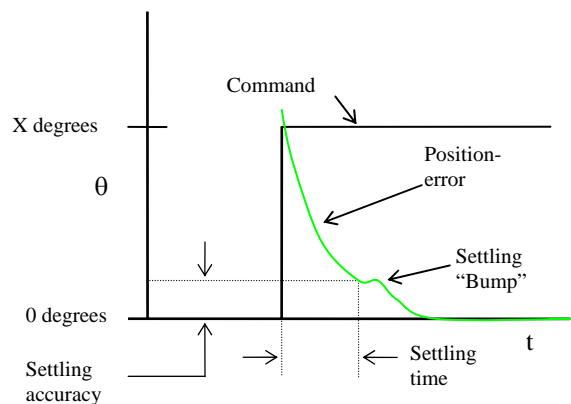

Figure 14: Settling “Bump”
- C. Increase the *error-proportional* gain, while adjusting *velocity* to maintain a critically damped response. At some point, increasing the *error-proportional* causes a “bump” in the settling response which will not be removed with an increase in *velocity* gain (see Figure 14). When this occurs, you have reached the bandwidth or torque limit of your line scan engine.
At some point, increasing the *integrator* causes a “bump” in the settling response which cannot be removed with *velocity* and *position-proportional* gain (see Figure 14). When this occurs, you have reached the bandwidth or torque limit of your line scan engine.